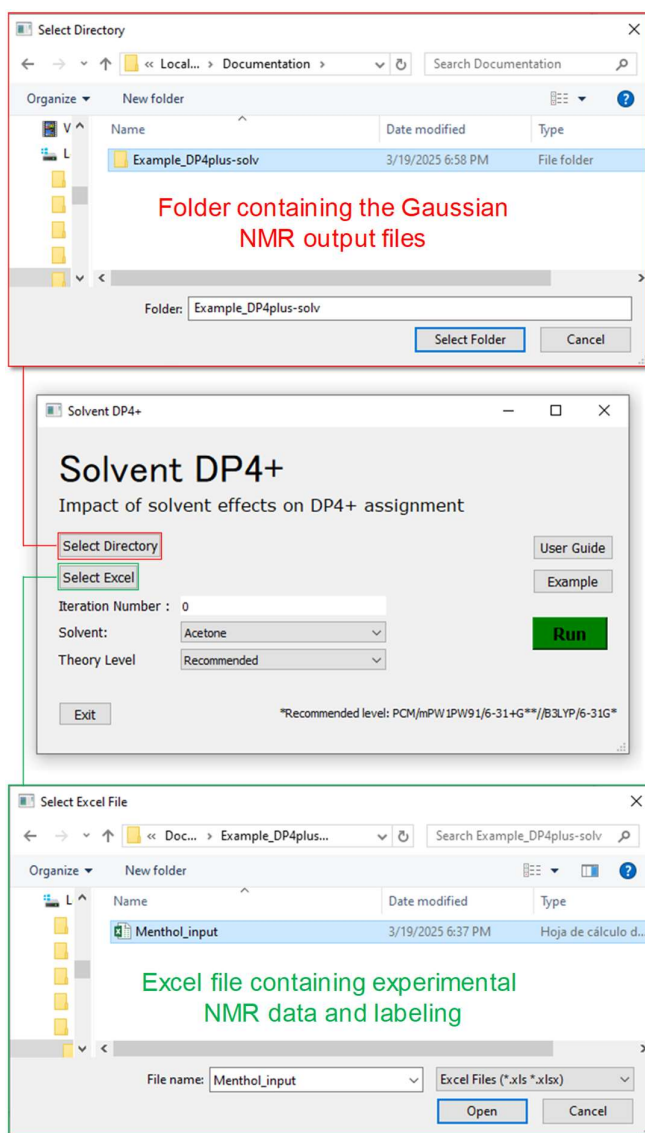

Figure 1.
Step 6: Run the script `dp4plus-solv.py` to perform the Solvent DP4+ calculations. The script opens a pop-up window prompting to select the folder containing the Gaussian output files (in *.log or *.out format) and the Excel input file (Figure 1). The script automatically extracts isotropic shielding values and energies from each output file, organizing them by isomer. Finally, the chemical shifts are averaged and correlated with the experimental data recorded in the user's selected solvent using DP4+. Additionally, the script simulates solvent-induced changes in experimental chemical shifts ($\Delta\delta_i$) using the statistical parameters corresponding to the selected solvent in the main window. The resulting probabilities (averaged across the selected iterations) are also provided, allowing for the analysis of the analyte's sensitivity to solvent changes.